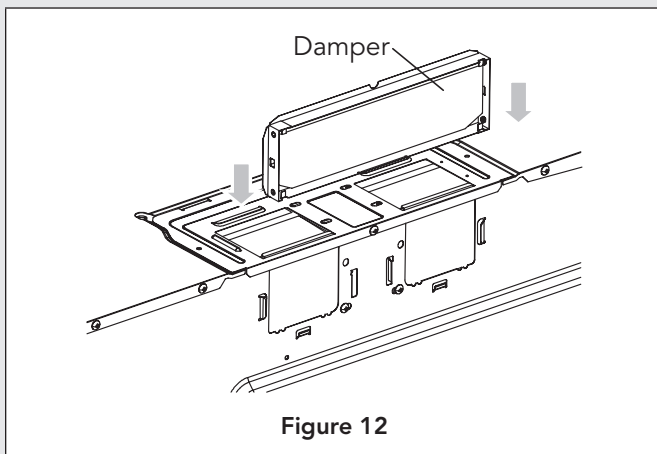

Figure 12
- Carefully match the exhaust opening location of the microwave and attach the damper to the rear plate by sliding it into the guides at the rear plate. See Figures 12,13.